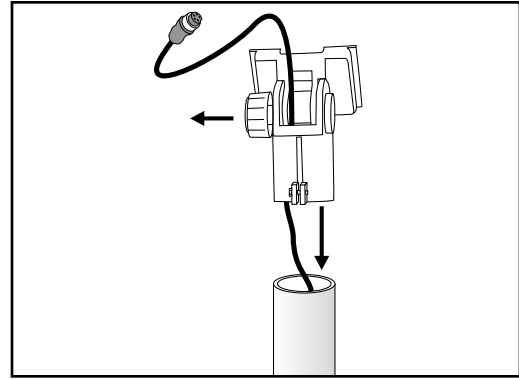

Figure 5
9. Feed the data cable through the Support Bracket by unscrewing the knob and pulling the Support Bracket pieces apart. (See Figure 5)
10. Once data cable is threaded through Support Bracket as shown, tighten the knob and place the Support Bracket on the Tower. (See Figure 5)
11. Tighten the bolt at the base of the Support Bracket. (See Figure 5)